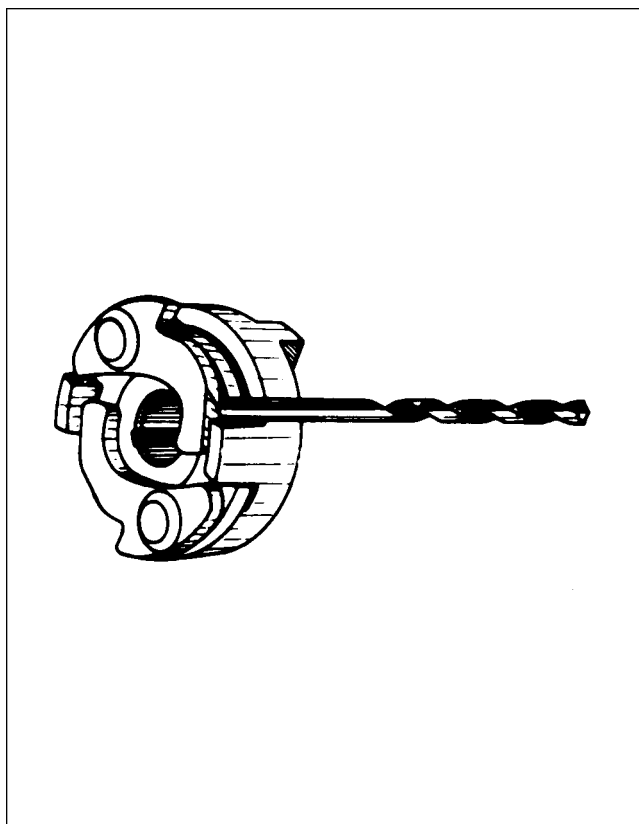

Figure 8-11. Impulse Coupling
- m. Inspect impulse coupling parts for excessive wear. Particularly check clearance between cam and flyweights of the cam assembly. Measure the clearance between the cam flyweights using the shank of a new No. 18 drill (0.169 inch diameter). If the drill will fit between cam and flyweight as shown in Figure 8-11, the cam assembly must be replaced. Check clearance between both flyweights and the cam of each cam assembly.